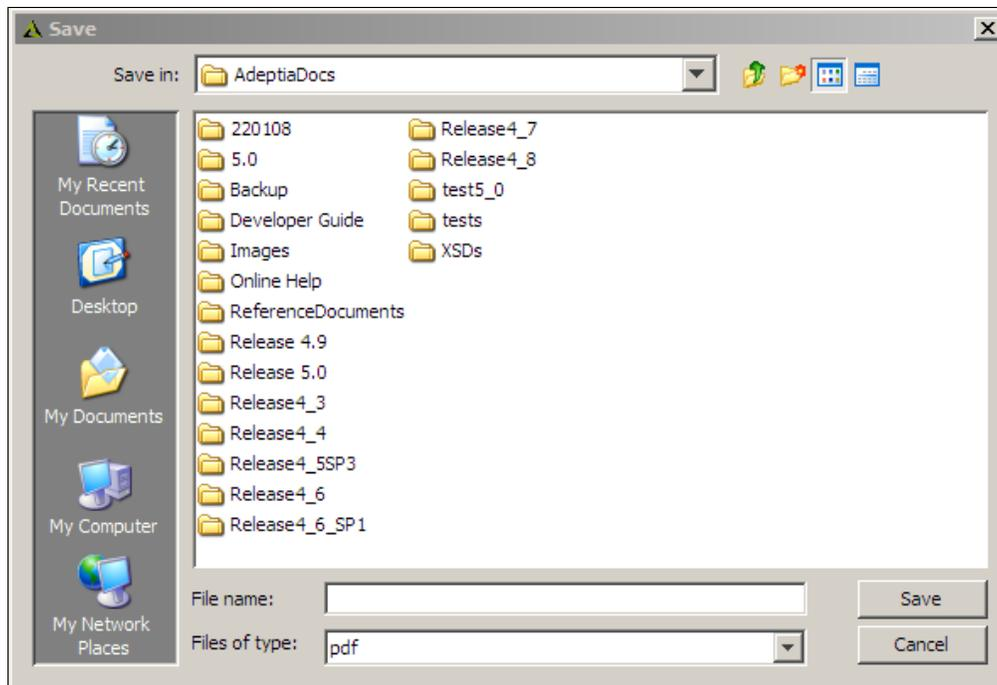

Figure 30: Save PDF
1. In Process Modeler, click **Generate PDF** (  ) button. The Save PDF screen appears to select the path, where PDF file will be saved (see Figure 30).